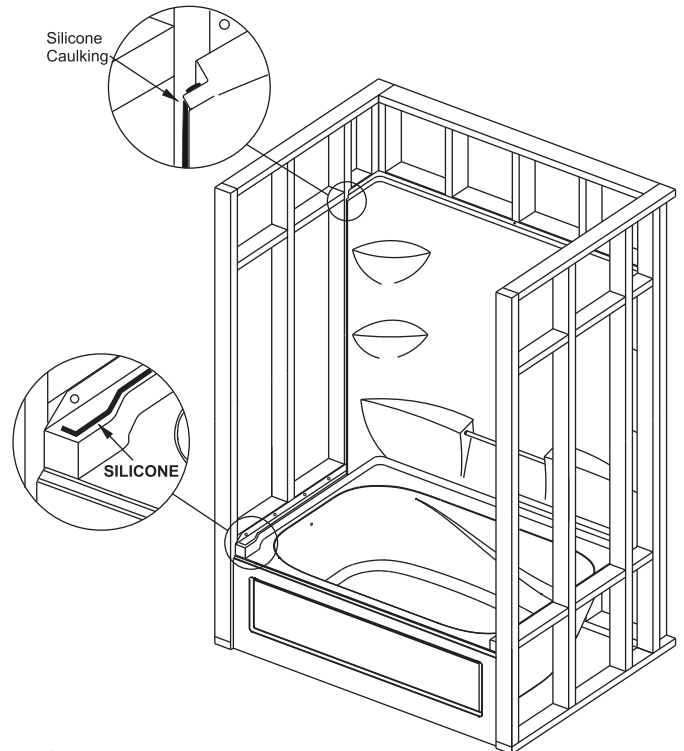

FIGURE 4
- Install the back wall section of the tub as shown figure 4.
- Apply a bead of silicone on the vertical flange of the side wall and the back wall. Also apply in the groove in bottom section as shown in figure 4 detail. Repeat this step for the other side wall.